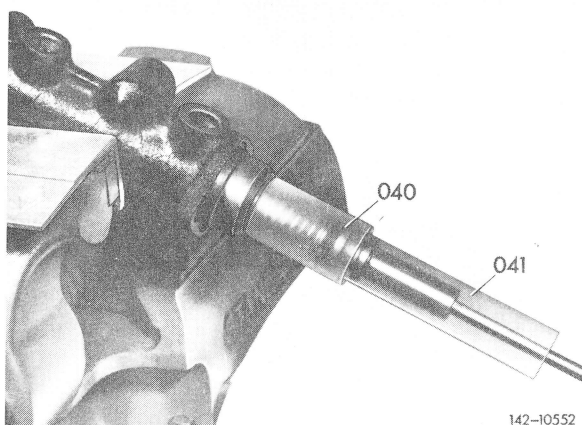

Fig. 15
23 Clamp housing at a slight angle with bore in downward direction. Move assembly sleeve (040) forward toward end of sleeve (041) and insert into housing. Slip complete piston assy up to stop into housing by means of a mandrel from sleeve (041). Screw-in stop screw with a new copper sealing ring (Fig. 15).